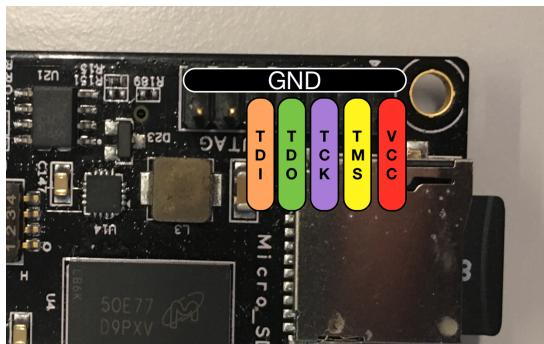

Figure 16: JTAG Pinout
- Connect the programmer on the JTAG port. Make sure the connector matches the pinout from Figure 16.